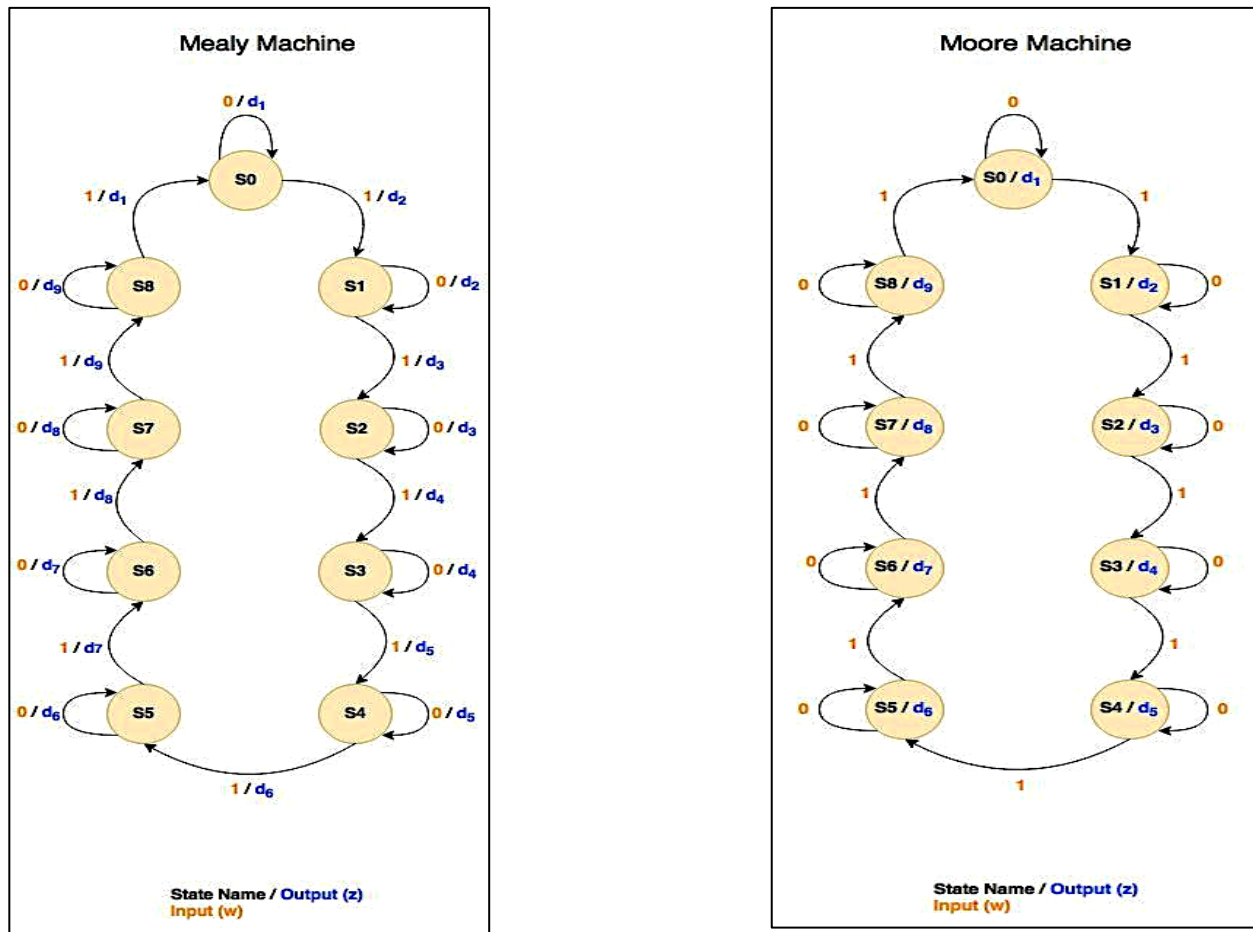

Figure 2 FSM Types for Representing Student Identification Number
3. The corresponding Mealy/Moore machine state diagrams for representing student ID in Table 1 is depicted as in Figure 2. Your circuit design must handle non-valid states and non-valid student identifier cases by displaying an “E” in the seven segment display.